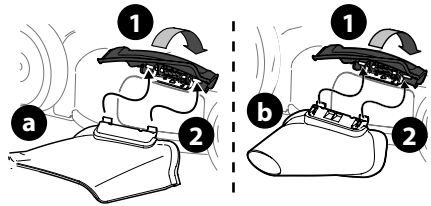

Figure 14
1. Lift the mulch plug (Figure 14).